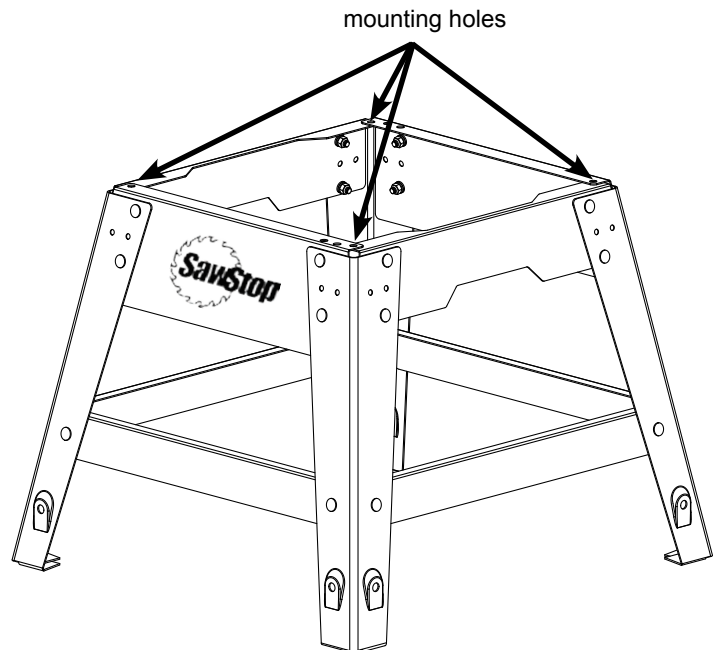

Fig. 8
8. The front, rear and side panels have flanges that overlap to define mounting holes through which you will bolt the saw to the stand. There is one hole in each corner of the stand (see Fig. 8). Adjust the panels until the holes align and then tighten all of the nuts in the stand using a 13 mm wrench.